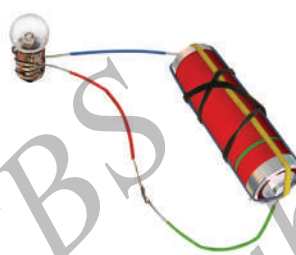

Fig. 12.15
7. Would the bulb glow in the circuit shown in Fig. 12.15?